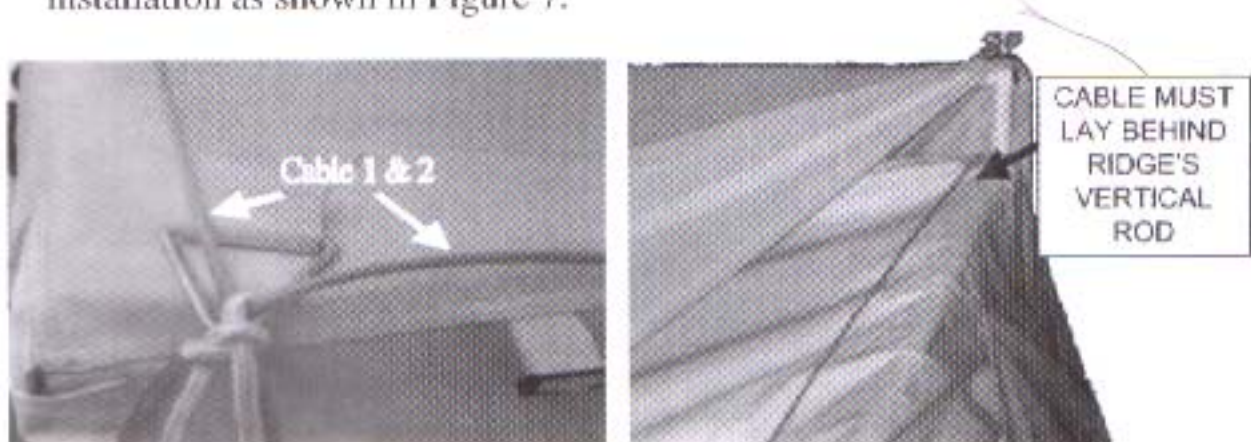

Figure 7: Tent Cabling
3. Outside of the Tent, lay the 4 cables (2 each of Part No. 29 and 30) along the 4 edges of the roof and thread through D-ring on the Tent for later installation as shown in Figure 7.